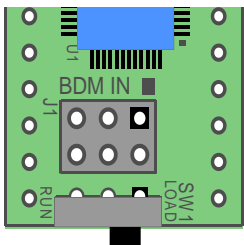
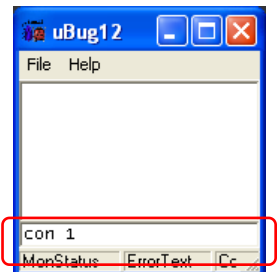

Figure 9 - Switch to Load Mode
Figure 10 - Command Window
1.42 Establishing a Serial Port Connection. Once you have launched uBug12, place the NanoCore12 switch in the **LOAD** position (see Figure 9) and reset your NanoCore12 (by bringing the **Reset** pin momentarily to logic low, as described earlier). Then click inside the command window of uBug12 (see Figure 10) and type the command *con 1* in order to establish communication between uBug12 and the NanoCore12 module. If you're using a com port other than 1, substitute the correct number (eg. type *con 3* if you are using com port 3). A **CONNECTED** message will appear in the uBug12 display window showing that the connection was successful.